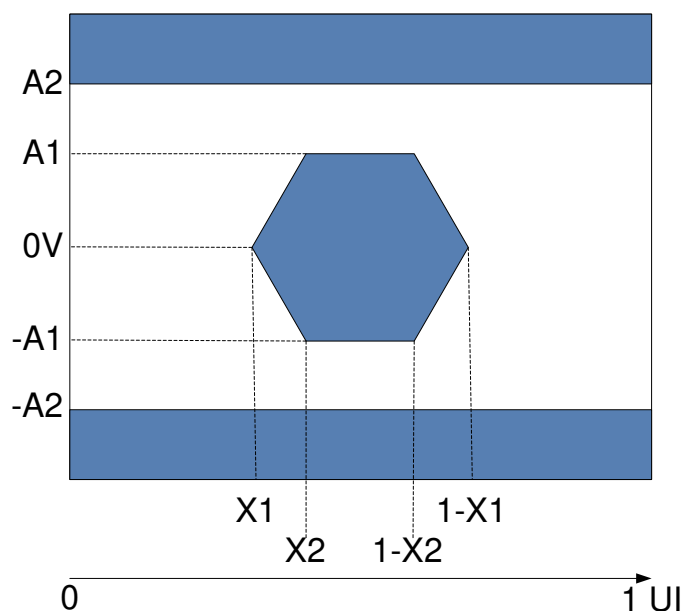

Figure 6-12. HSSI Eye Characteristics
(1) All power supply connections are required to operate the DMD: V_{DD} , V_{DDA} , V_{OFFSET} , V_{BIAS} , and V_{RESET} . All V_{SS} connections are required to operate the DMD.
(2) All voltage values are with respect to the ground pins (V_{SS}).
(3) To prevent excess current, the supply voltage delta $|V_{DDA} - V_{DD}|$ must be less than specified limit.
(4) To prevent excess current, the supply voltage delta $|V_{BIAS} - V_{OFFSET}|$ must be less than specified limit.
(5) Supply power dissipation based on 3 global resets in 200 μs .
(6) LVC MOS input specifications are for pin DMD_DEN_ARSTZ.
(7) LVC MOS output specification is for pins LS_RDATA_A and LS_RDATA_B.
(8) Refer to Figure 6-12 (1e-12 BER).
(9) Defined in Recommended Operation Conditions.